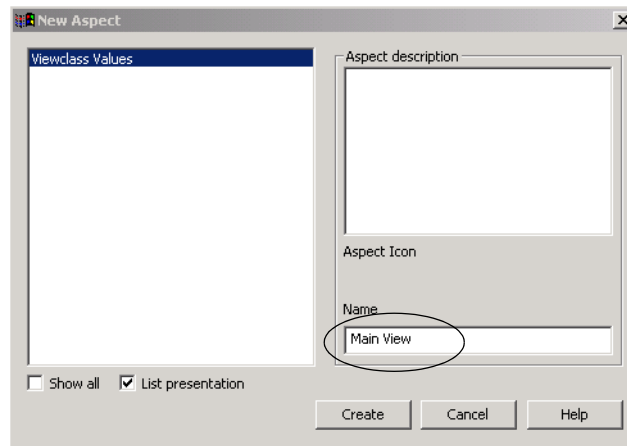

Figure 86. New Aspect - Main View
3. Create a new aspect of the ViewClass Values category. Give it the **same name** as the view (**Main View**), see Figure 86.